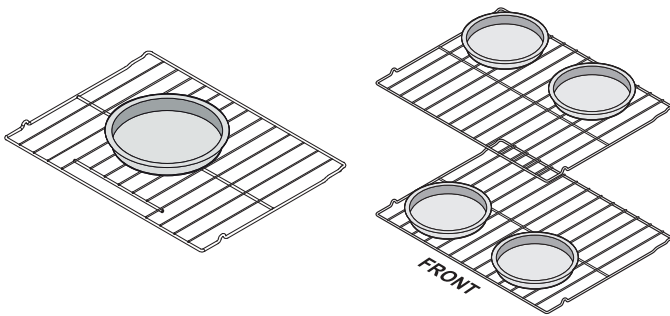

Figure 9: Pan spacing recommendations
- For best results when baking layer cakes using 2 oven racks, place bakeware on rack positions 2 and 4. See Figure 9.